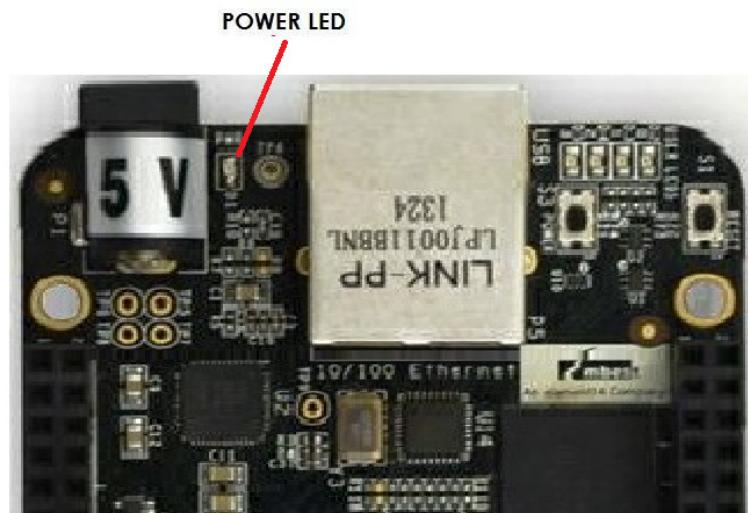

Figure 4      Board Power LED
1. Connect the small connector on the USB cable to the board as shown in **Figure 4**. The connector is on the bottom side of the board.
3. The board will power on and the power LED will be on as shown in **Figure 4** below.